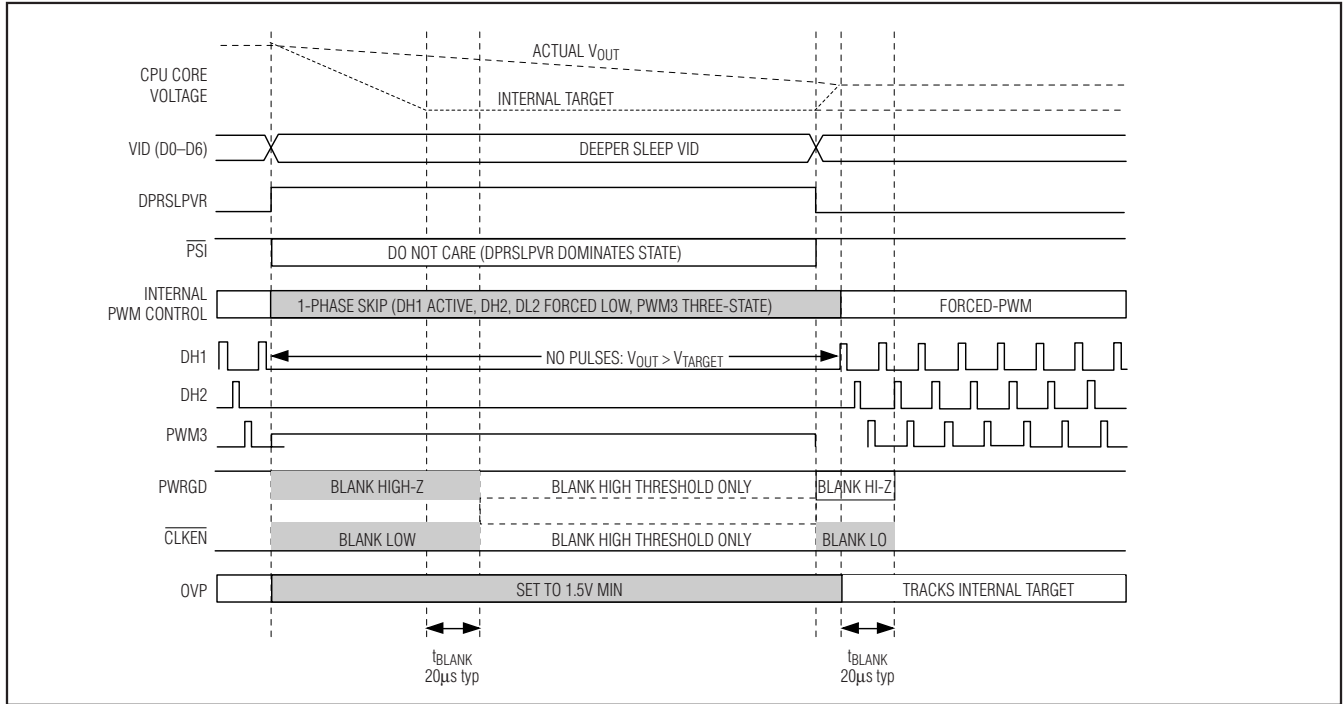

Figure 5. C4E (C4 Early Exit) Transition
When DPRSLPVR goes high, the MAX17030/MAX17036 immediately disable phases 2 and 3 (DH2, DL2 forced low, PWM3 three-state, DRSKP low), and enter pulse-skipping operation (see Figures 5 and 6). If the VIDs are set to a lower voltage setting, the output drops at a rate determined by the load and the output capacitance. The internal target still ramps as before, and PWRGD remains blanked high impedance until 20 μ s after the output voltage reaches the internal target. Once this time expires, PWRGD monitors only the lower threshold:
- **Fast C4E Deeper Sleep Exit:** When exiting deeper sleep (DPRSLPVR pulled low) while the output voltage still exceeds the deeper sleep voltage, the MAX17030/MAX17036 quickly slew (50mV/ μ s min regardless of R_{TIME} setting) the internal target voltage to the DAC code provided by the processor as long as the output voltage is above the new target. The controller remains in skip mode until the output voltage equals the internal target. Once the internal target reaches the output voltage, phase 2 is enabled. The controller blanks PWRGD and CLKEN (forced high impedance) until 20 μ s after the transition is completed. See Figure 5.